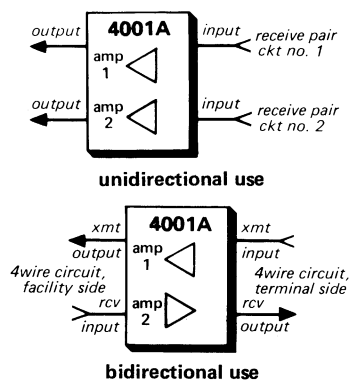

figure 2. Unidirectional and bidirectional applications
2.01 The 4001A Line Amplifier module is designed either to provide bidirectional (transmit and receive) level control and amplitude equalization for a 4wire voice-frequency (VF) transmission facility or to provide unidirectional level control and amplitude equalization for two separate unidirectional VF channels (see figure 2). The module also provides input and output impedance matching, longitudinal isolation, and surge protection for the facilities served by its two amplifier/equalizer circuits.